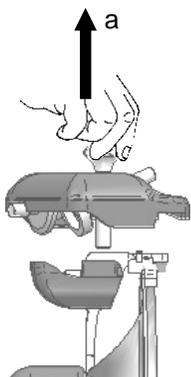

Fig.54
1. Lift (Fig.54 ref.a) the guard up to the end of the stroke;